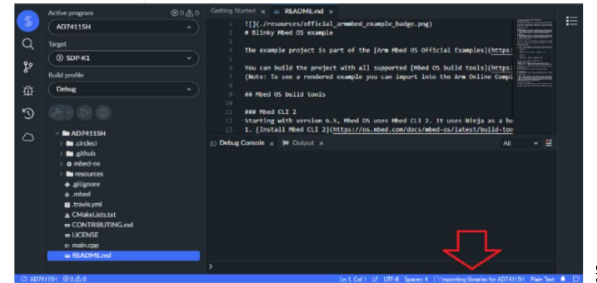

Figure 15. Wait Until Project Libraries Import
4. Wait until the libraries are imported (see Figure 15).